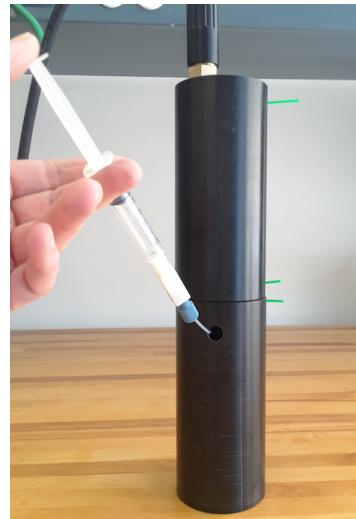

Figure 18: Using syringe to clear air lock.
1. Fill the syringe with deionized water and connect to the intake tubing on the iSAMI (the tube protruding from the reagent chamber; this tube will have a blue fitting and a copper bell, an inlet filter, or a blank bag attached to it) as shown in Figure 18.